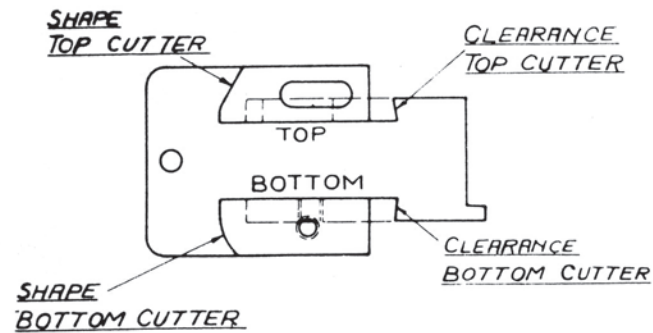

Fig. 1
1. Use grinding gauge to grind upper and lower cutters for general work as shown in Fig. 1. Cutters are shown in four positions used to determine shape and clearance.